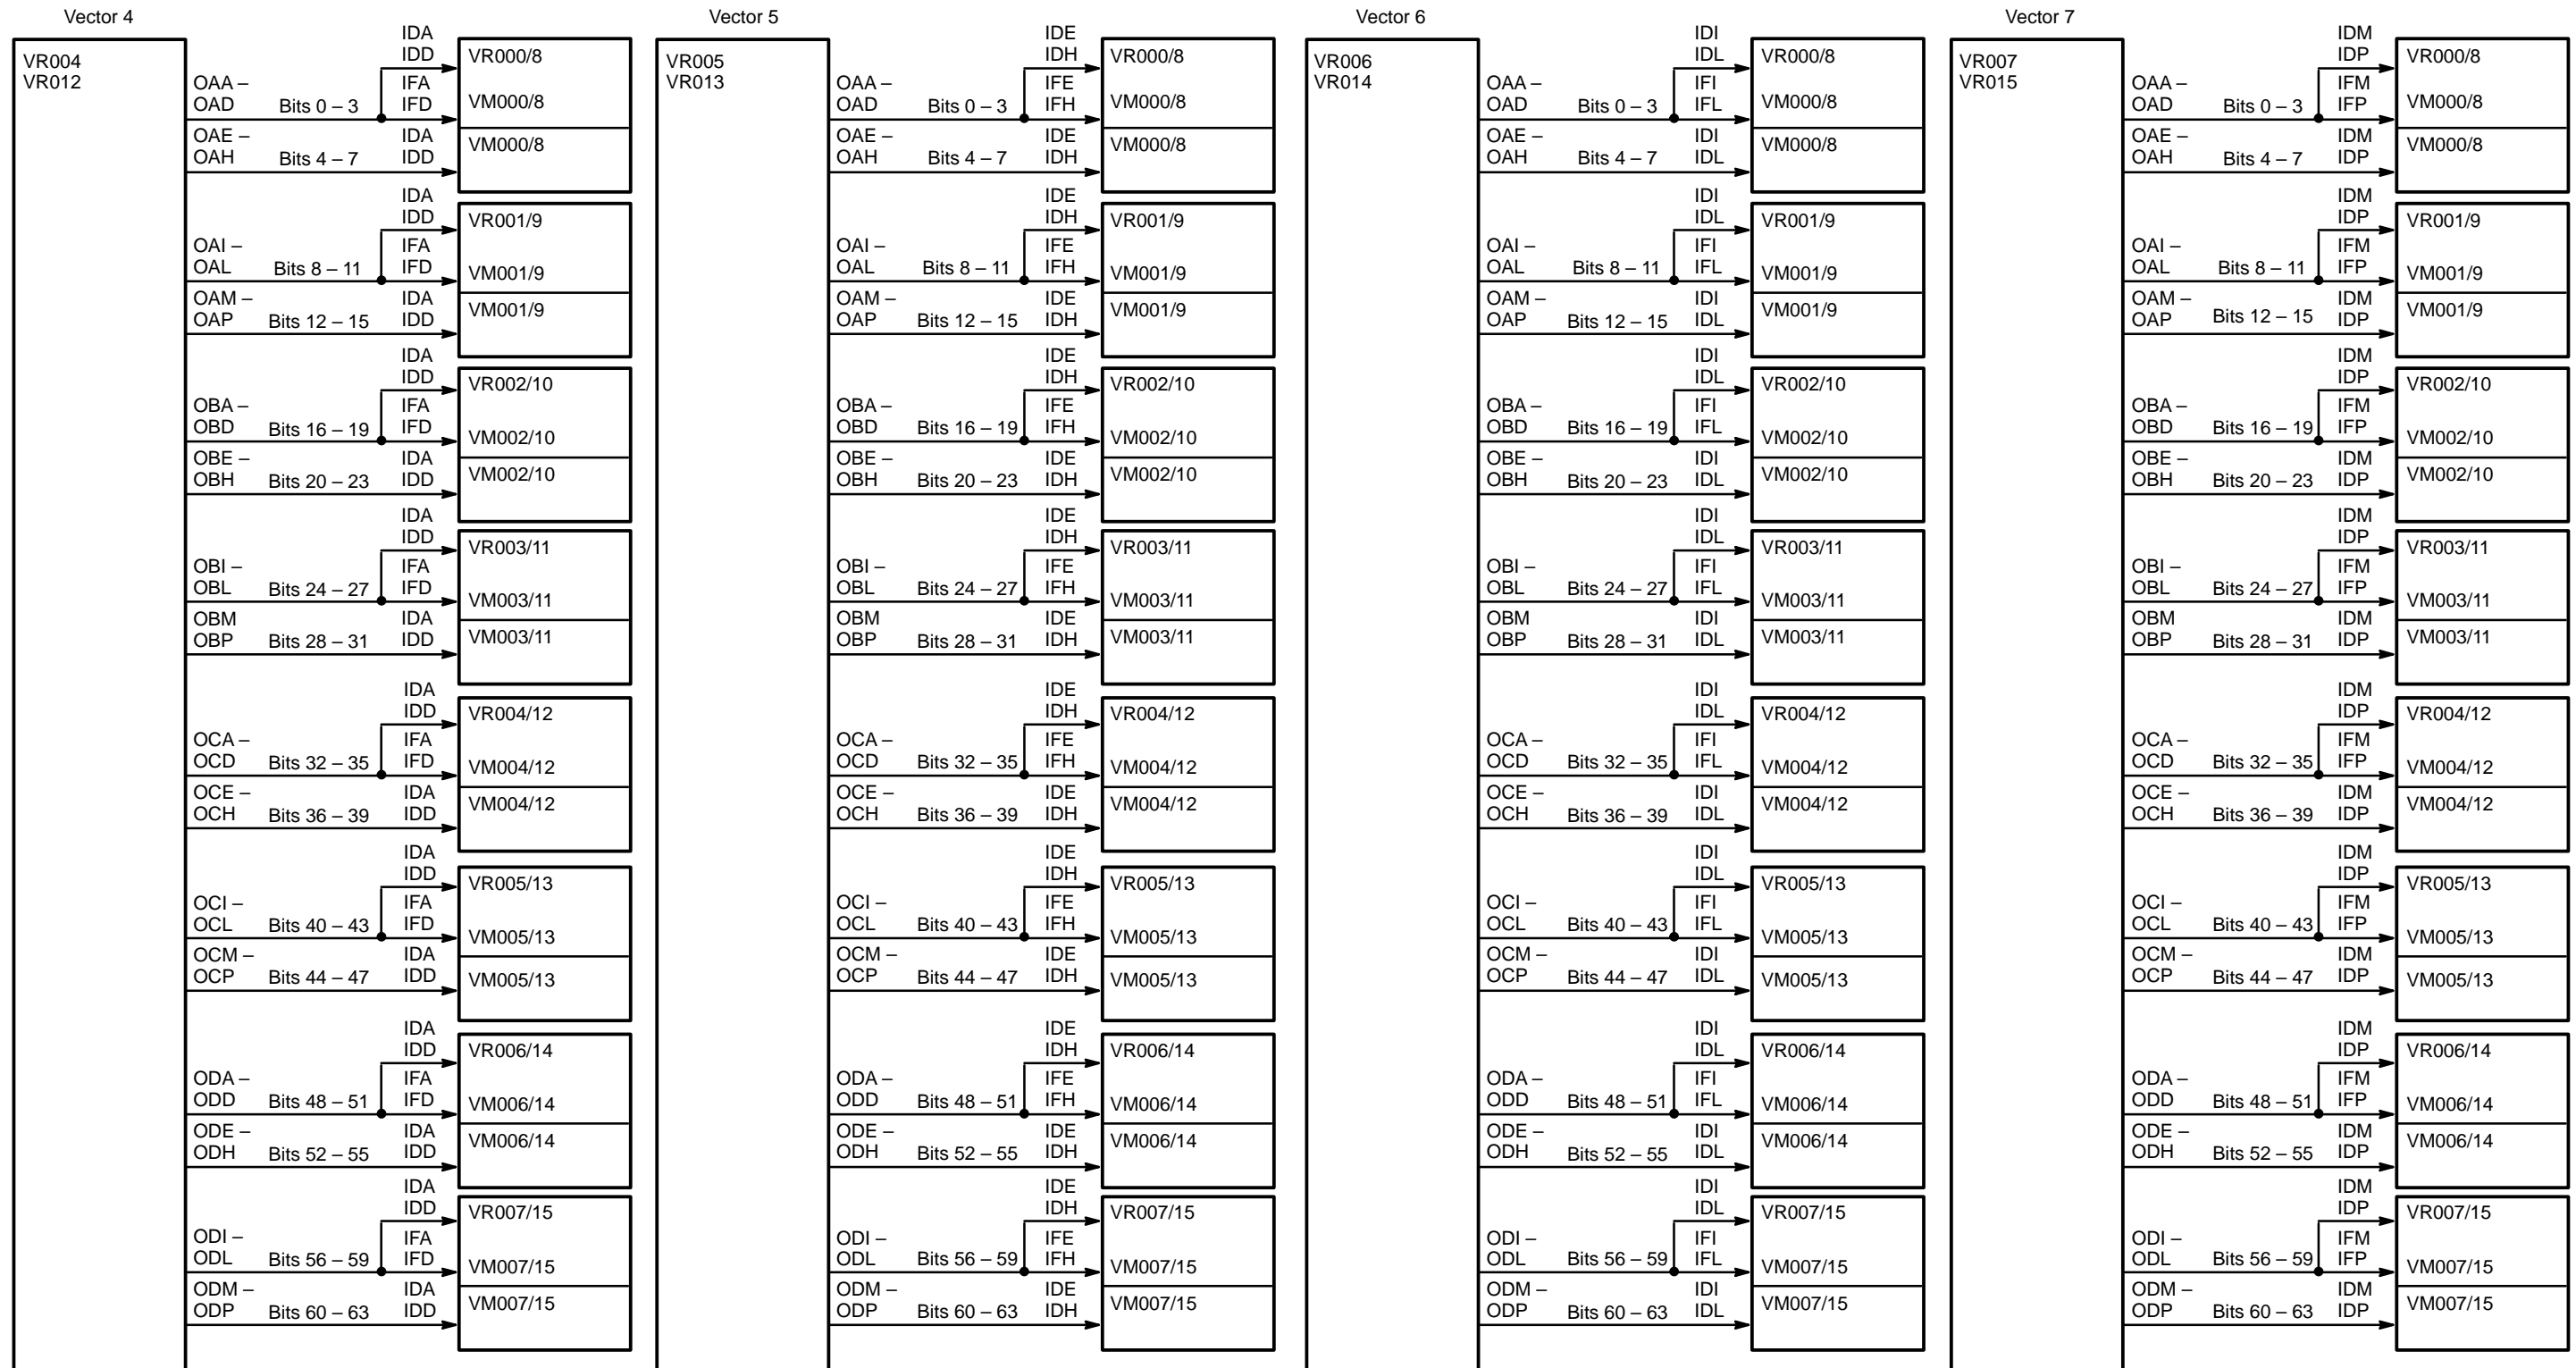

Figure 45. Vectors 4 through 7 Pipe 0/1 Read Data Path
- Figure 45 – S register to vectors